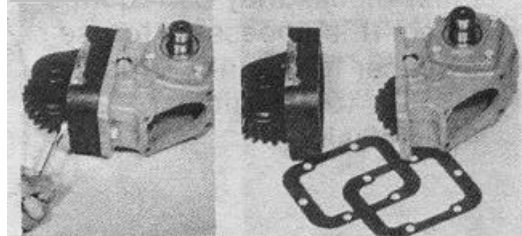

Fig. 16
3. Bench mount the adapter to the P.T.O. using appropriate length studs. (See Fig.16.)